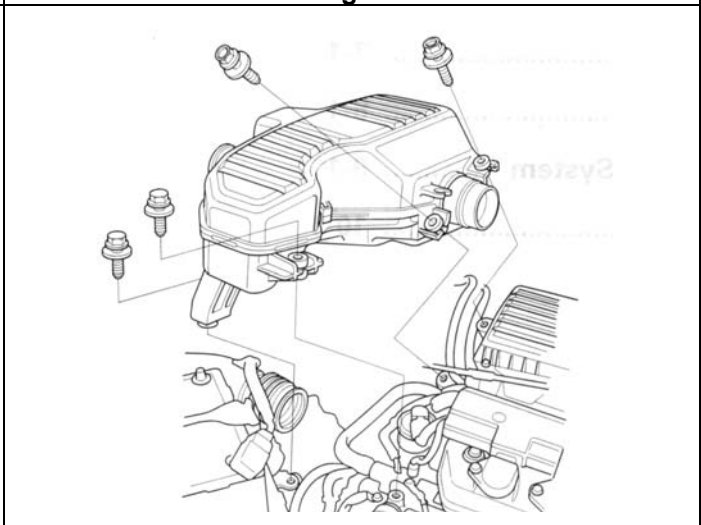

Fig. 4
- e) Remove the four bolts securing the intake resonator and pull the intake resonator out of the car. **(Fig. 4)**